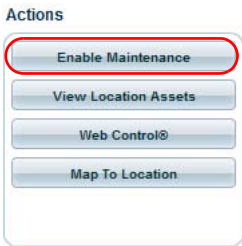

FIG. 206 Locations page - Actions window - Enable Maintenance
2. Click the **Enable Maintenance** button in the *Actions* window, in the lower-right corner of the page (FIG. 206):